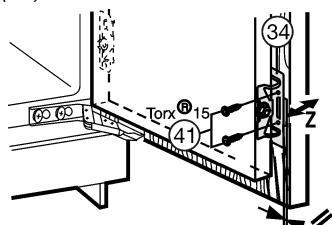

Fig. 21
- ▶ Screw the appliance door to the unit door with screws Fig. 21 (41) passed through the mounting brackets Fig. 21 (34).